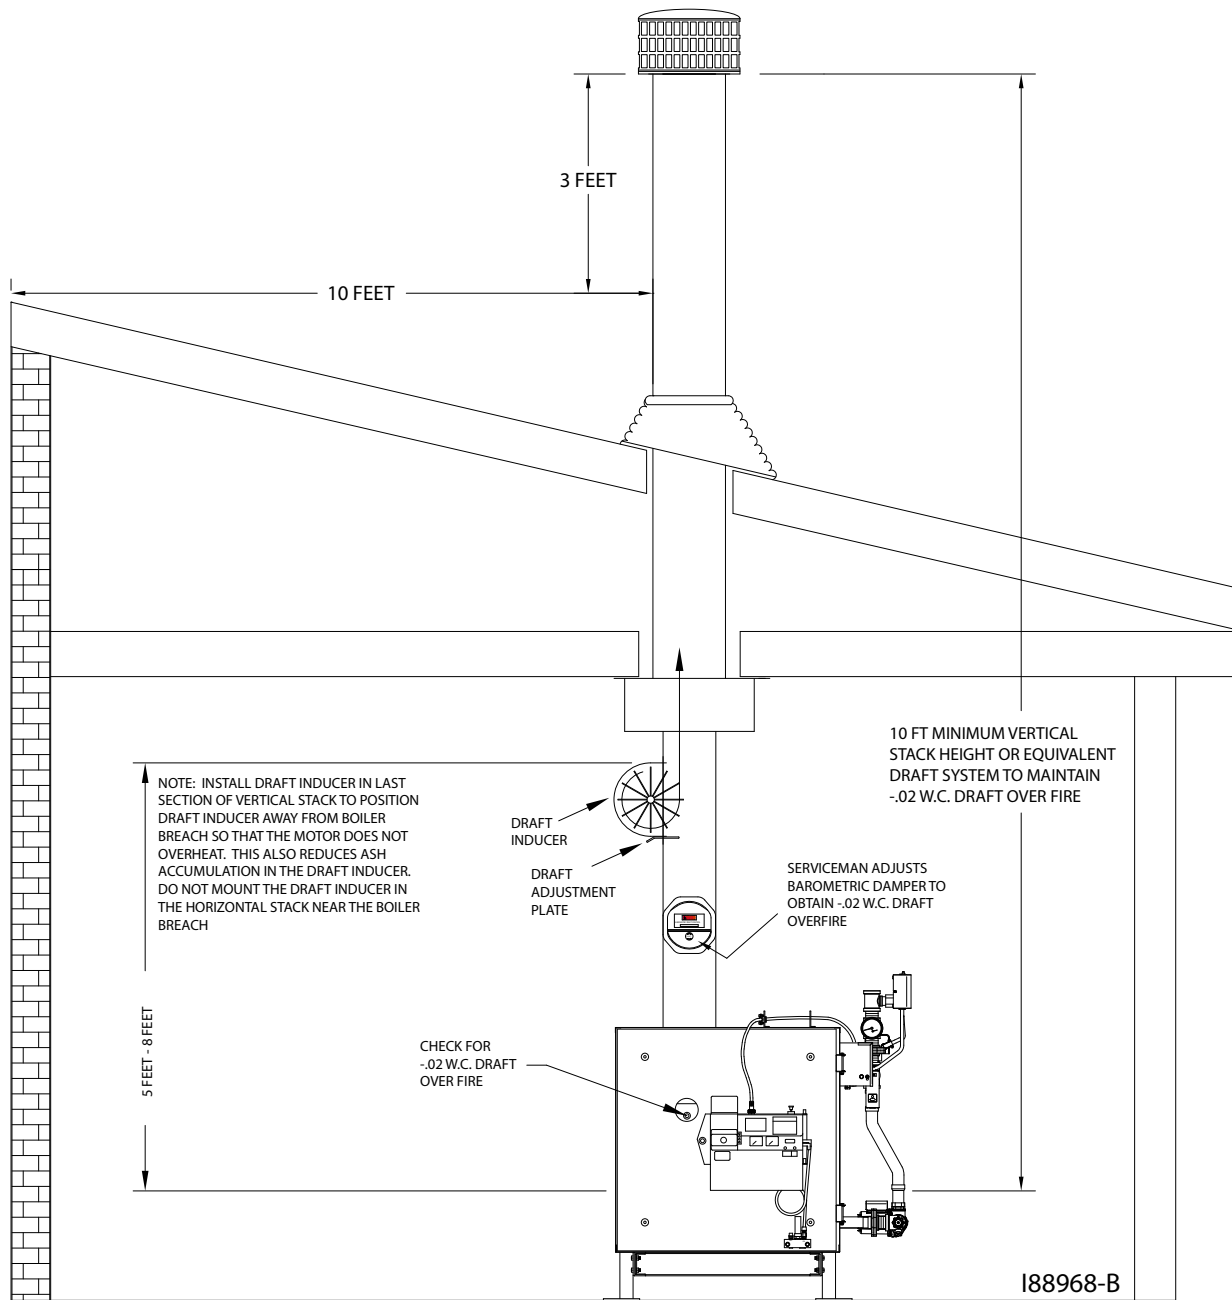

Figure 4N - Installation of the Draft Inducer
The draft inducer is designed to aid in the removal of the natural draft created by the appliance to vent the combustion gases to the outside of the building. As the paddle wheel turns, a negative pressure is maintained within the stack so that the combustion gases can leave the boiler and travel out of the stack. (See Figure 4N.)
1. Refer to Figure 4N. Follow the instructions included with the draft inducer to mount the draft inducer on the section of single-wall vertical stack.